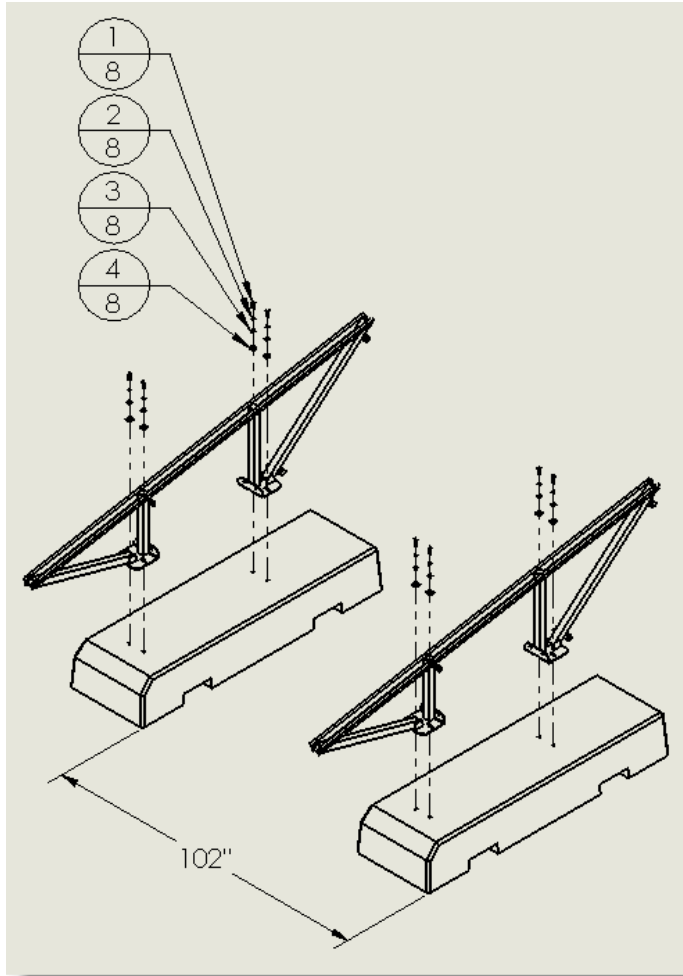

Figure 2
- a. REFERRING TO FIGURES 2 AND 3, SET A GEMINI TRUSS ON TOP OF EACH FOUNDATION. ORIENT THE TRUSS SO THAT THE HIGH POINT IS ON THE NORTH END. BOLT DOWN EACH TRUSS WITH (4) ½"-13 BOLTS AND THE HARDWARE SHOW IN TABLE 1.